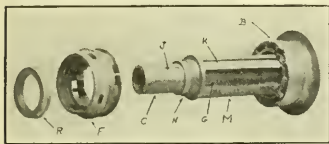

FIG. 6.—THE SPIDER.
The armature is composed of the spider, the core, the commutator, the winding and the shaft. The spider, shown by Fig. 6, is made up of three parts, the main casting (M), the front end bell or core casting (F), and the ring nut (R). The casting (M) is bored out to very accurate dimensions so that the armature shaft will press in under 30 to 40 tons pressure. The outside dimension is also carefully finished, as the core is built upon this diameter, and a very close fit is desired. Deep grooves (G) are provided in the cast-
grooves G, Fig. 6. The rotation of the armature sets up a natural ventilation. Air is drawn in through these grooves (G) and is blown out through the ducts (D) in the core. We all know that electricity flowing through a wire generates heat, so that when the motor is working heat is conducted away from the coils to the core, and the air passing through the ducts cools the core
so that the heat is dissipated. The next step in the construction of the armature is to press the commutator on to the spider at diameter C, Figs. 6 and 7.
exception of two things to press on the spider at diameter C (see Figs. 6 and 7). It is necessary to protect the mica V ring (P) where it projects beyond the commutator bar and a string or tape banding (X) is used pointed with shellac or other equally good insulating varnish. Slots (Y) must also be cut in each commutator bar, into which the wires from the coils are soldered.